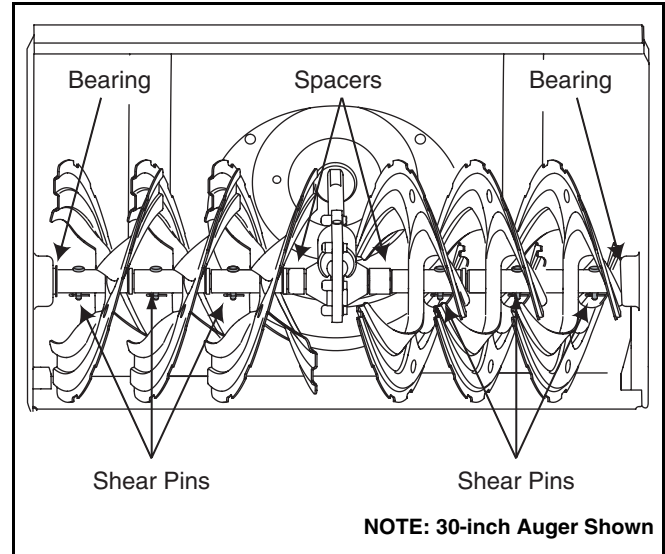

Figure 8
- At least once a season, remove the shear pins on auger shaft. Spray lubricant inside shaft, around the spacers. Also lubricate the flange bearings found at either end of the shaft. See Figure 8.
- The augers are secured to the spiral shaft with two shear pins and cotter pins. If the auger should strike a foreign object or ice jam, the snow thrower is designed so that the pins may shear. Refer to Figure 8.